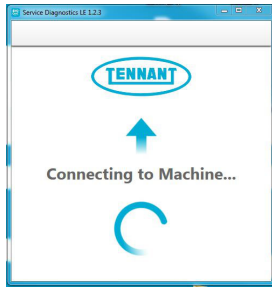

Fig. 18
- The application software will then connect to the machine (Figure 18). If the application remains on the “Connecting to Machine...” screen for an extended period, cycle key or reconnect USB cord. If it still fails to connect, restart software or computer.